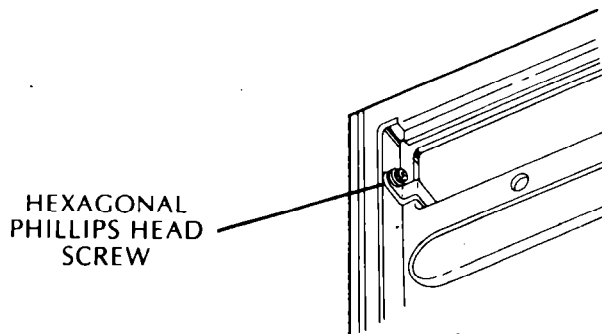

Figure 2
3. Remove and save two hexagonal Phillips head screws (inside grease filter openings) (**Fig. 2**).